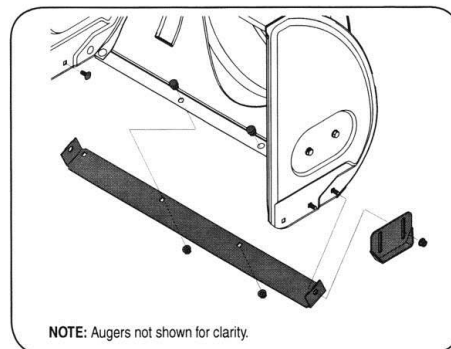

Figure 12
2. Reassemble new skid shoes with the four carriage bolts (two on each side) and hex flange nuts. see figure 12